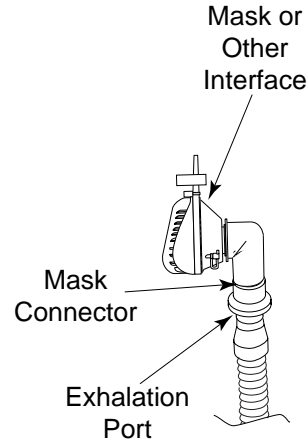

Figure 4-5 Connect the Mask
- STEP 3** Connect the exhalation port to the mask connector as shown in Figure 4-5.